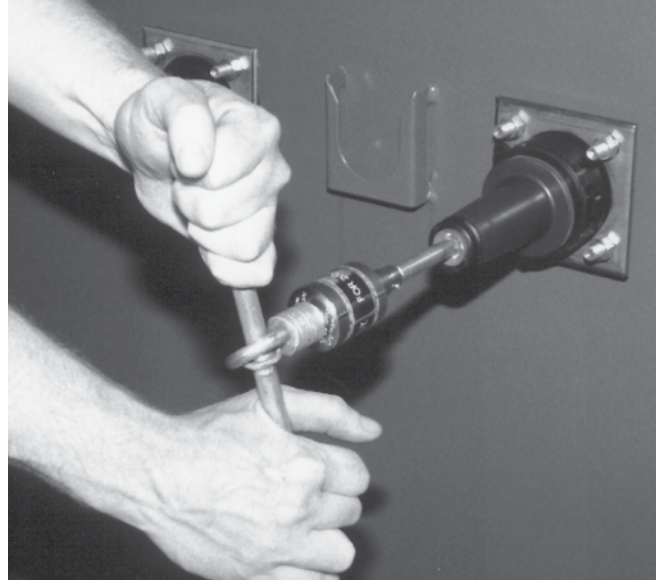

Figure 3. Insert torque tool and tighten to bushing well (15 kV version shown).
- Turn clockwise until torque tool makes an audible "click." The torque tool tightens the bushing insert to approximately 15 ft-lbs. (See Figure 3.)